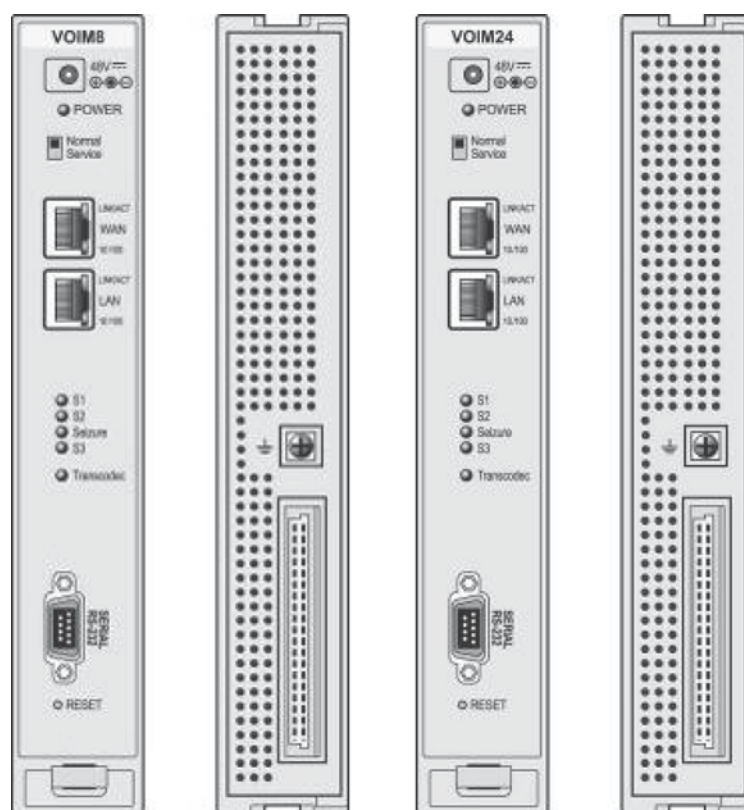

Figure 2.1.2-1 VOIM8 & 24 Front & Rear Panels
- As shown in Figure 2.1.2-1, the front panels of the VOIM8 and 24 have:
- One (1) RJ-45 Female LAN connector for master processor with Speed and Link/Act LEDs,
- One (1) RJ-45 Female LAN connector with Speed and Link/Act LEDs
- Five (5) status LEDs,
- One (1) DB-9 RS-232 connector,